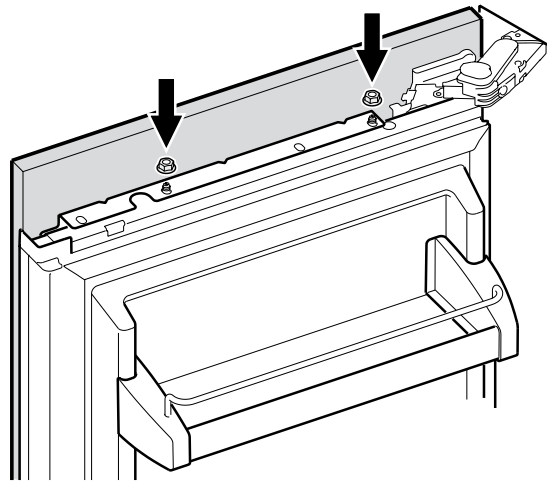

Figure 24
Mounting the refrigerator door panels - Figures 24 - 33
1. Open the refrigerator door and hang the panel on the adjusting bolts (**Figure 24**).
2. Screw on the hex nuts to the adjusting bolts and finger tighten temporarily (**Figure 24**).